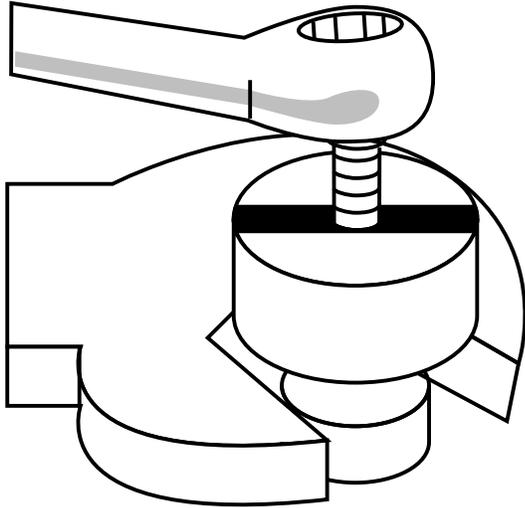

Figure 3. Holding Tool and Turning Center Screw (Clockwise) to Remove Retaining Ring.
5. Thread the center screw into the removal tool until you feel resistance. Use a wrench (1" or adjustable) to hold the base of the removal tool. Use another wrench or socket (1/2" or 13 mm) to turn the center screw clockwise (see Figure 3). The resistance against the center screw will tell you when the retaining ring has popped out of the groove in the armature shaft.